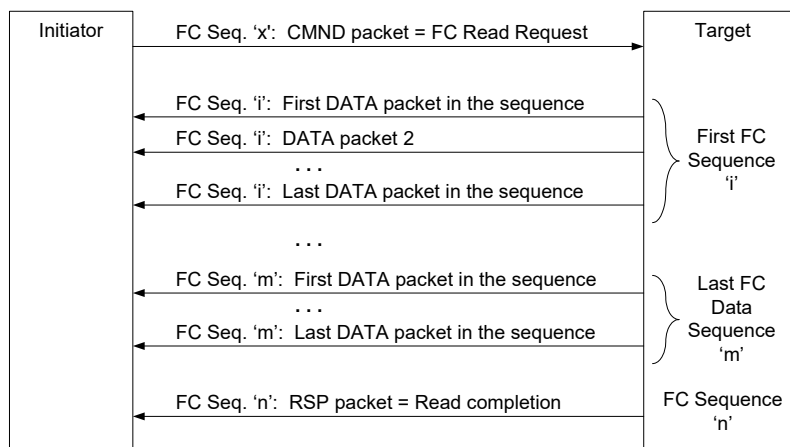

Figure 7-51. Example for FC Class 3 Read Exchange Flow
Figure 7-51 shows an example of an FC (class 3) read request. This flow is detailed in this section.
2. If the previous conditions are not met, software can still initiate the FC read request according the flow described in Figure 7-51 while the received frames are posted to the legacy receive queues.
- If the previous conditions are met, software locks the relevant user buffers (the target buffers for the FC read request) and program the FC context table. It then initiates the FC read request according the flow shown in Figure 7-51. The payload of the received frames is posted directly to the user buffers. Some of the packet’s headers (only the required ones) are posted to the legacy receive queues. The FC header in the packet’s header contains the *OX\_ID* field. This field indicates to software its context and its user buffer list. During nominal operation, all packets’ headers except packets with FC optional headers are trashed by the hardware minimizing software overhead.